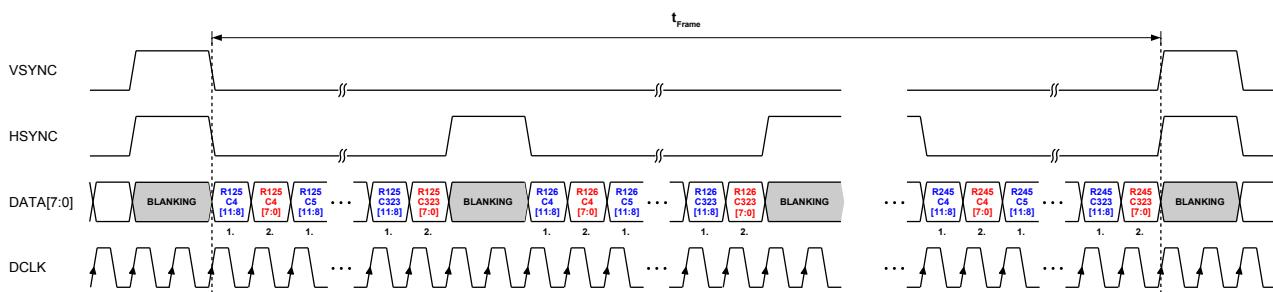

Figure 32: msb/lsb split mode
- msb/lsb split mode: Transfers 12 bit pixel data with MSByte leading and LSByte trailing with 2x DCLK. Refer to Table 14 and Figure 32.